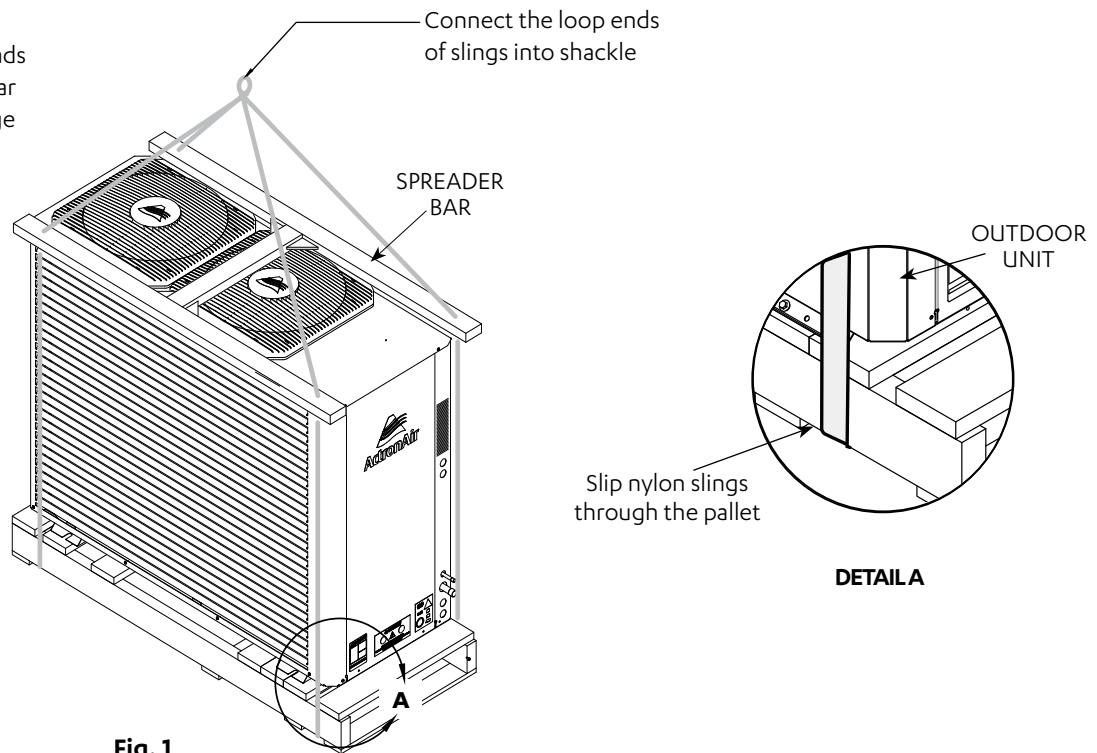

Fig. 1
1. Slip nylon slings through the pallet as shown in Fig. 1.